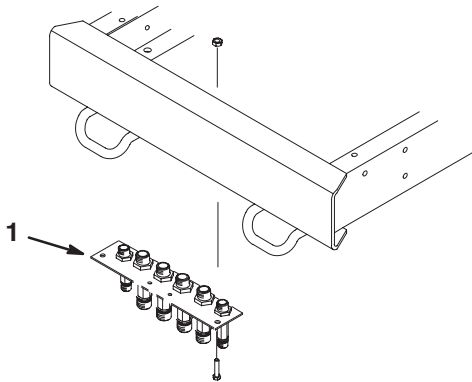

Figure 5
2. Secure the rear bulkhead assembly to the rear bumper with two 3/8-16 x 1" lg. screws and 3/8-16 locknuts (Fig. 5).